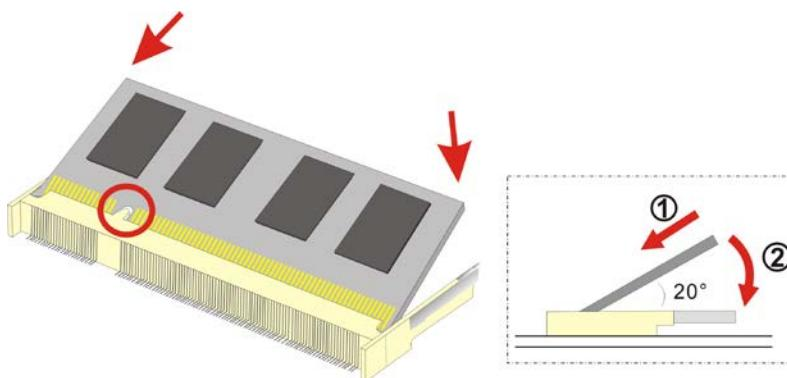

Figure 5-3: DDR SO-DIMM Module Installation
Step 8: Install the new DDR3 memory module by pushing it into the socket at an angle (**Figure 5-3**).
Step 9: Gently pull the spring retainer clips of the SO-DIMM socket out and push the rear of the DDR memory module down (**Figure 5-3**).